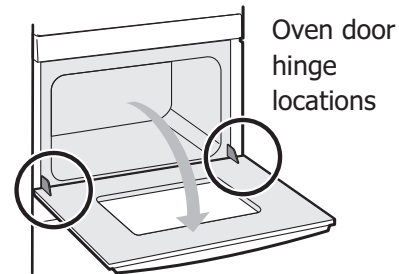

Figure 28: Door hinge location
3. Fully open the oven door, horizontal with floor (Figure 28).